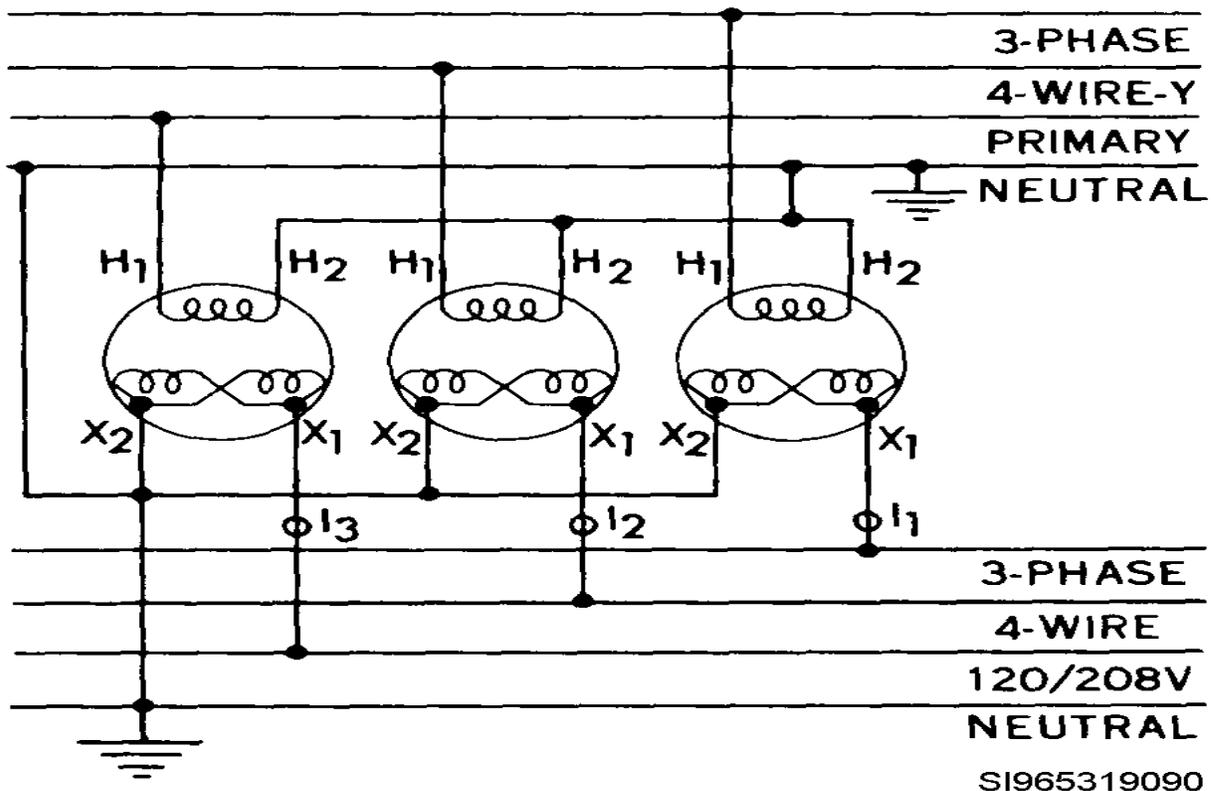

Figure 7, Wye/Wye For Lighting And Power
Step 12: Primary Connection for Wye/Wye as seen in Figure 7 above.
Step 13: Secondary Connection for Wye/Wye as seen in Figure 7 above.